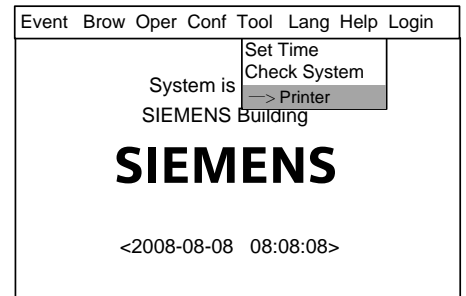

图 34-2
2. Press "→" to pop out the "Tool" submenu (Fig.34-2). Select "→Printer" and press "OK", then this port is configured as a printer port.